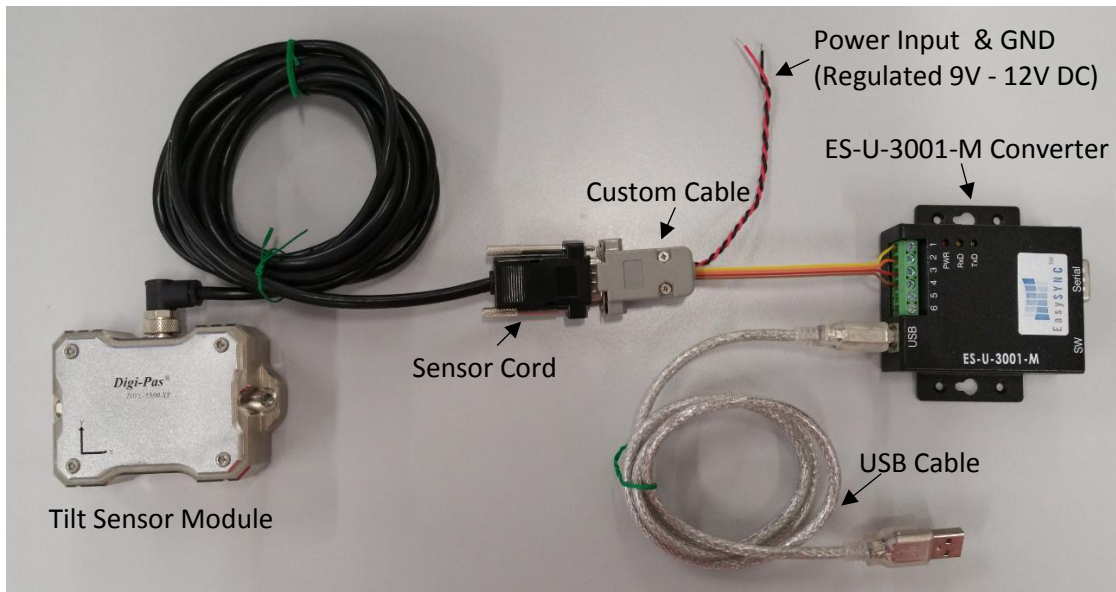
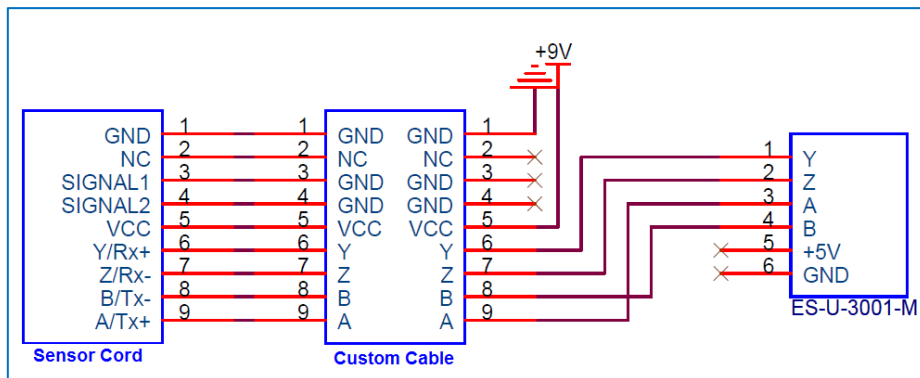

Figure 8. Connection of the tilt sensor module, custom cable and ES-U-3001-M converter
Figure 9. Connection pinout of the sensor cord, custom cable and ES-U-3001-M converter
2. Connect the custom cable with sensor cord and ES-U-3001-M converter as in Figure 8. The connection pinout is illustrated in Figure 9.